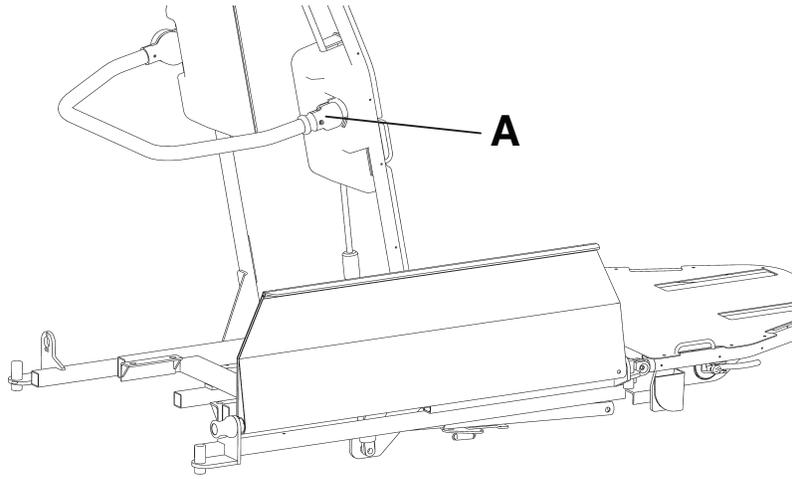

Figure 7 – Red release knob
To raise or lower the push bar, support the push bar and pull the red release knob (A) (Figure 7). Swing the push bar into the full up or down position until it latches.